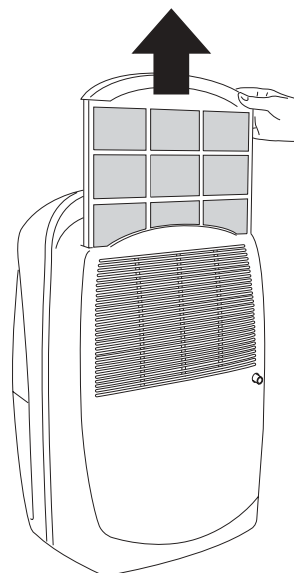

fig. 4
- To remove the air filter, extract by pulling it as shown in fig. 4.